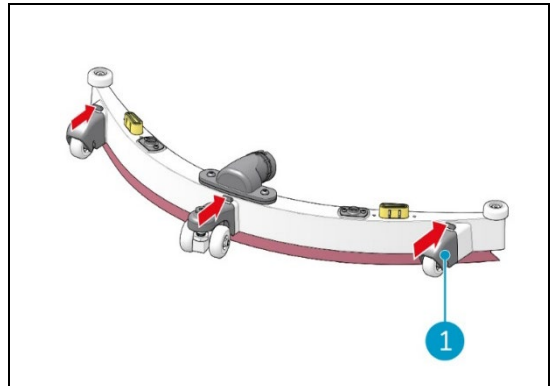

Figure 44
2. Slide the wheel bracket off the squeegee unit (Figure 44).